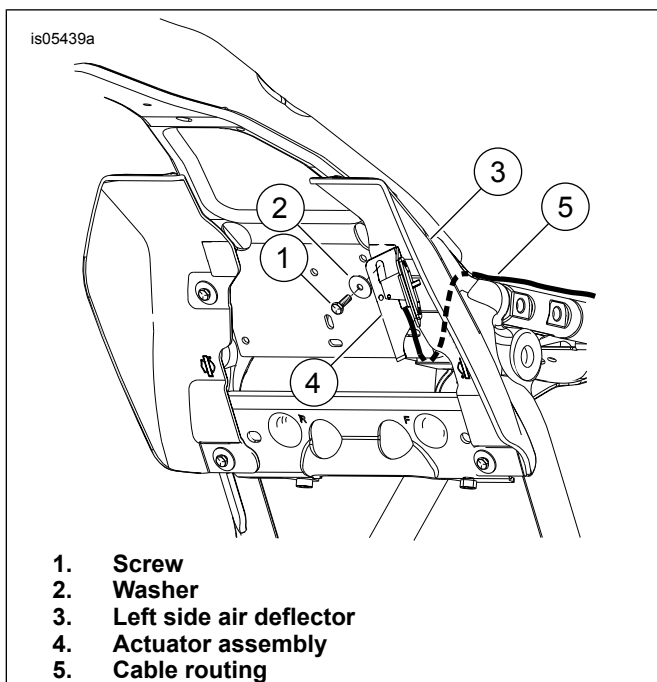

Figure 5. Installing Actuator Assembly with Mid-Frame Air Deflector
3. See Figure 5. Pull plastic spark plug wire clip out of the hole in the frame plate at the location where the adjustment handle bracket is going to mount. Discard plastic hose clip.
8. See Figure 5. Verify that the backrest adjustment cable is not connected to the mounting bracket. Starting at the actuator assembly end, route the backrest cable under the cross-member plate and up through the frame (5).
10. See Figure 5. Slide the flat side of the actuator assembly (4) bracket behind the wires and align the deflector upper mounting hole with slot in adjustment handle bracket. Make sure the hook/bent tab of the bracket engages the edge of the cross-member plate. When aligned, insert and tighten screw and washer.